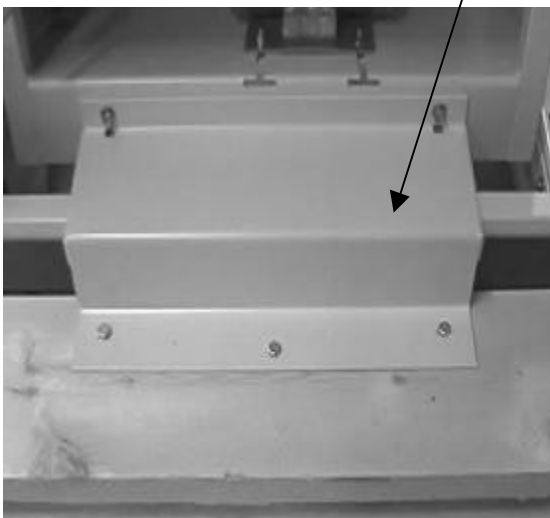

figure 3
- Remove the fixing brackets on the front-and backside of the machine (see figure 3 a 4). The bracket on the front side is fixed with 5 bolts (M6, key 10), see figure. The brackets on the backside are fixed to the pallet with 2 bolts (M6) per bracket. These brackets are gliding over the adjusting feet.